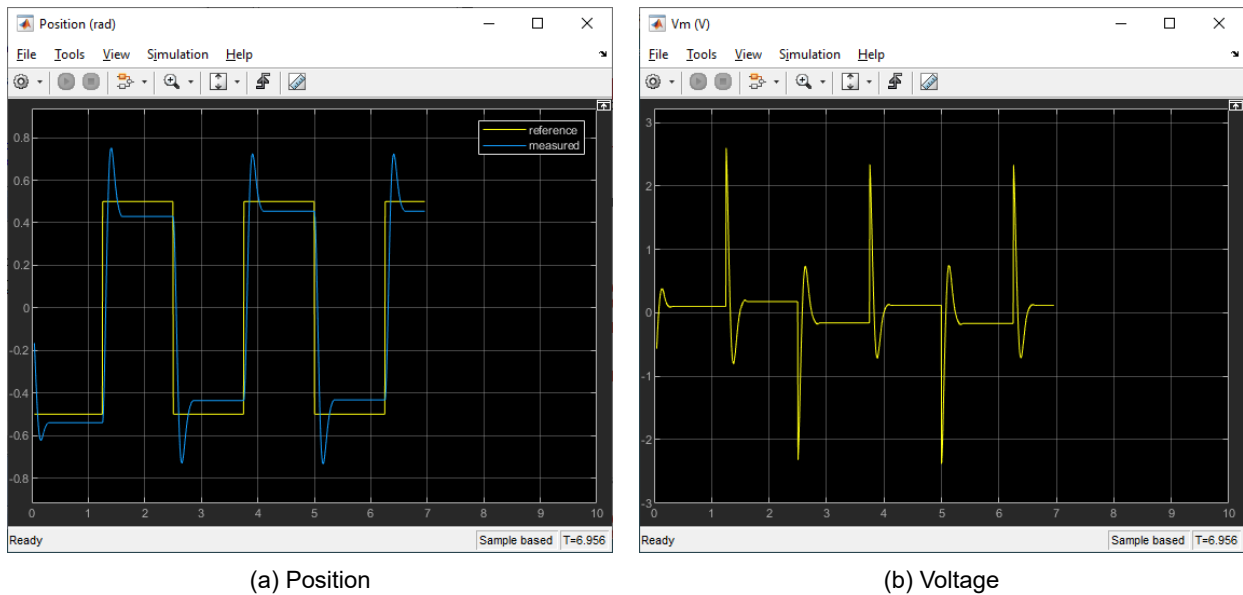

Figure 2.2: QUBE-Servo 2 PD control with  $k_p = 2.5$  V/rad and  $k_d = 0.05$  V/(rad/s).
4. Build and run the **QUARC**® controller. The response should look similarly as shown in Figure 2.2.